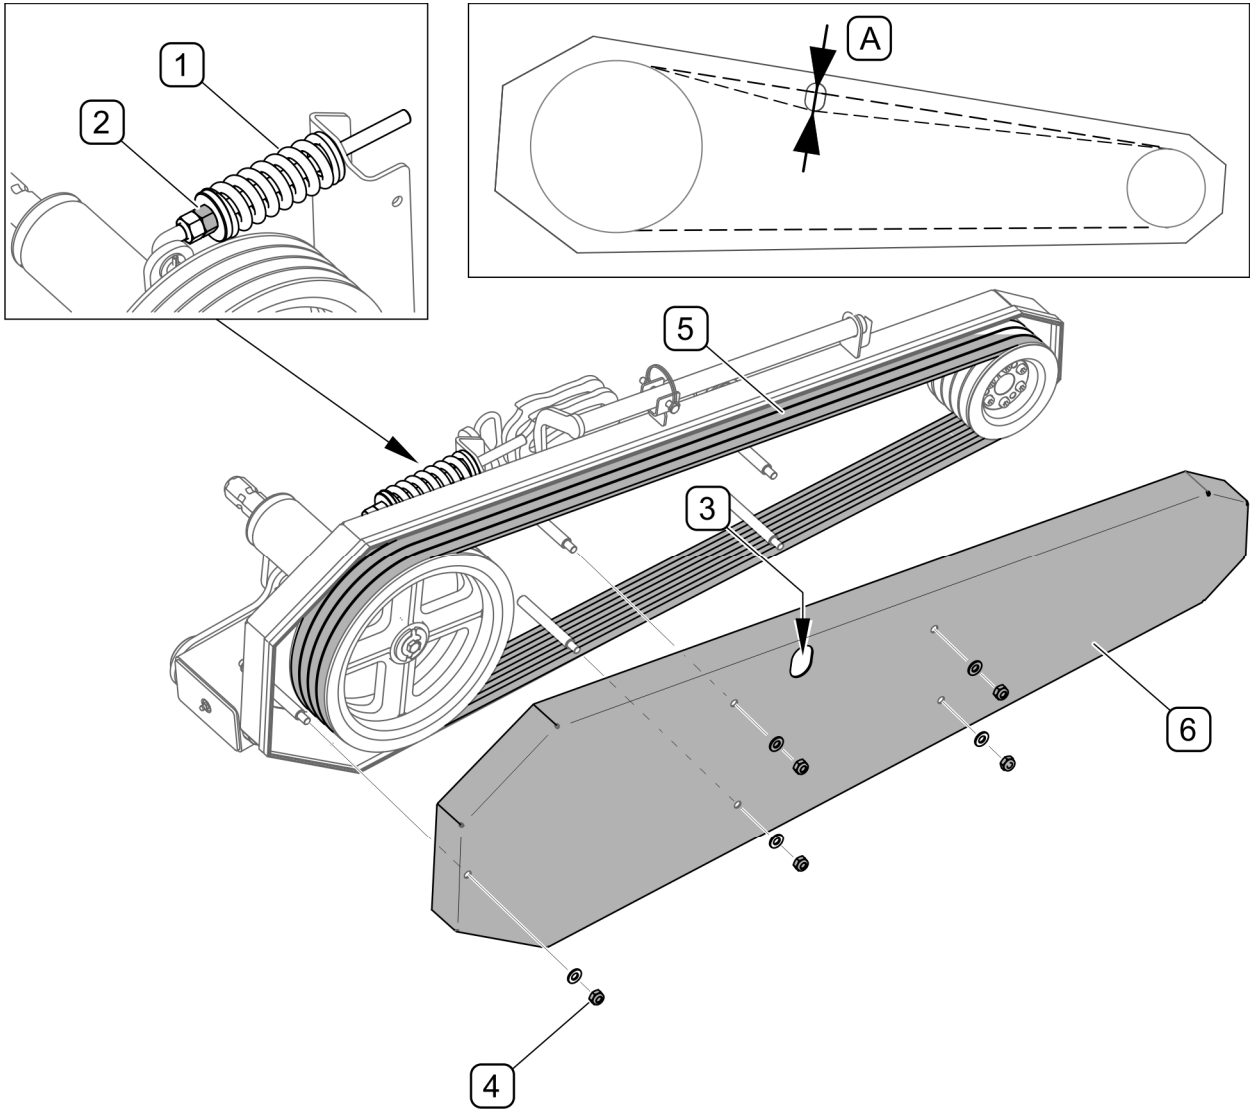

FIGURE 5.5 Check and adjust tension of vee belts
Drive transmission system maintenance consists of periodic inspection, regulation and possible change of vee belts. To inspect vee belts (FIGURE 5.5), check the tensioning of belts through the inspection opening (3). The deflection (A) of a vee belt measured in the inspection opening (3) in the housing should not exceed 30 mm. Belt tension is checked individually for each of the belts. If belts have slightly different lengths, tension should be adjusted for the shortest belt. Belt tension may be altered using nut (2) of spring tensioner (1).
If one of the belts is damaged the whole belt set should be changed. To replace vee belts, loosen spring tensioner (1), unscrew nuts (4) and remove guard (6). After belt replacement, put guard (6) in place and adjust belt tensioning (FIGURE 5.5).